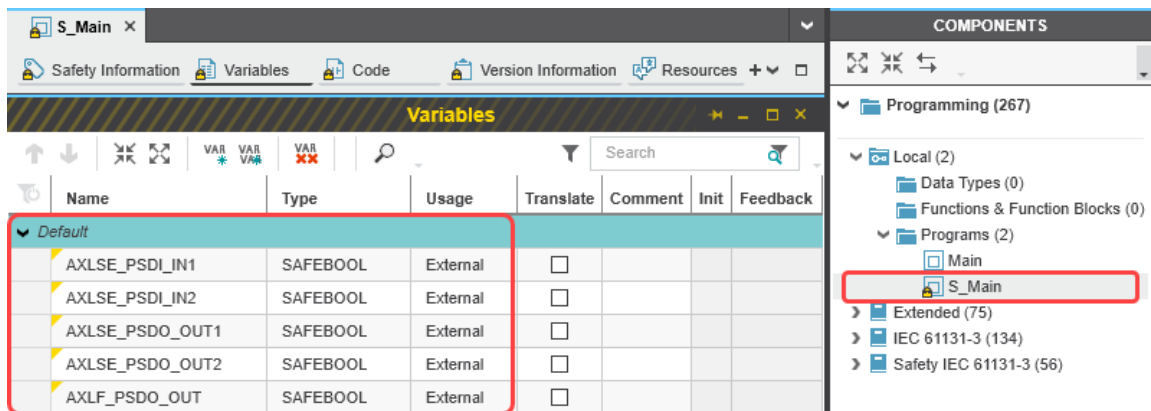

Figure 6-36 Creating variables for a POU (in the example: for the “S\_Main” POU)
- Create the variables that you need for the selected POU (in the example in Figure 6-36: S\\_Main).